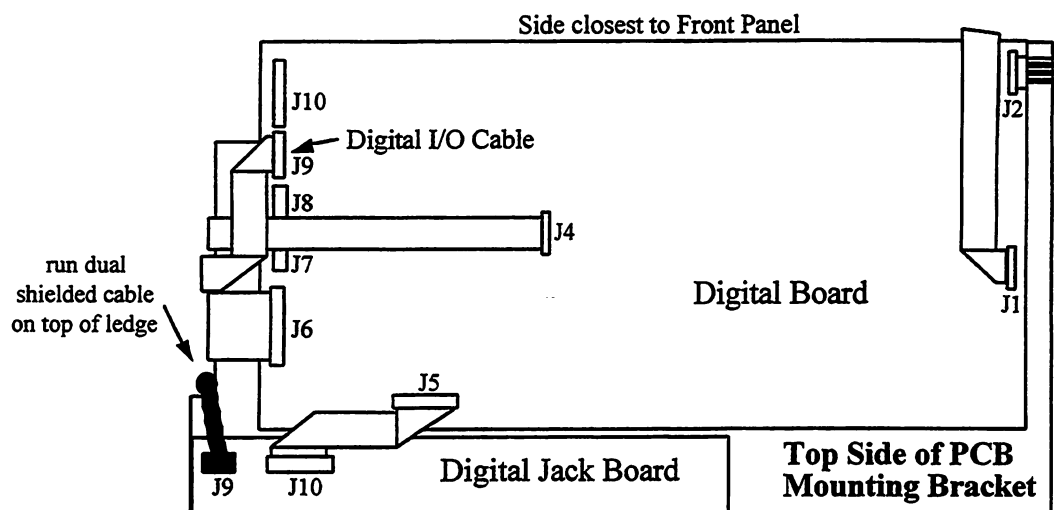
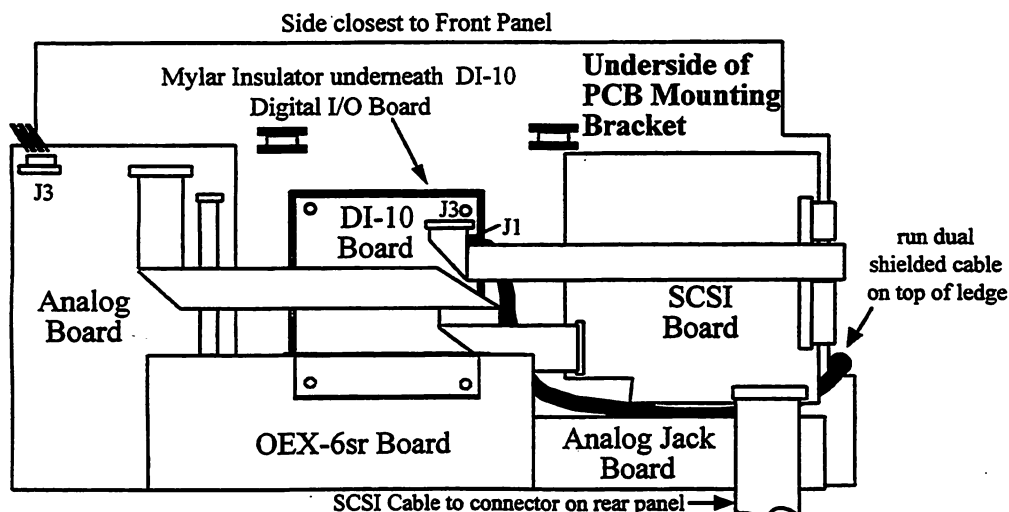

Figure 2 – Top Side of the ASR-10 Rack PCB Mounting Bracket
Figure 3 – Installing a DI-10 Board into an ASR-10 Rack Unit
- c) Remove the four (4) #6 x 3/16" self-tapping screws that attach the lid to the front panel.
3. You will be installing the DI-10 board onto the under side of the PCB Mounting Bracket. To remove the PCB Mounting Bracket (see **Figure 2**):
- d) Turn the unit around so that the jacks are closest to you and remove the six (6) #6-32 x 1/4 SEM (screw with a star washer attached) screws from the back panel of the bottom housing.
5. Snap the DI-10 board assembly (board with insulator and four plastic standoffs attached) into the four holes, see **Figure 3**. Make sure it is oriented such that both connectors on the DI-10 board are toward the SCSI board. Support the other side of the PCB Mounting Bracket while installing the DI-10 board.
11. Install the six (6) #6-32 x 1/4 SEMs into the rear panel of the unit to hold the PCB Mounting Bracket in place.
12. Reconnect all cables (see **Figure 2**):